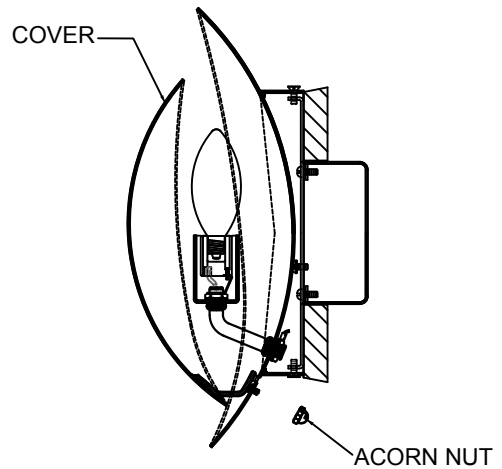

FIGURE-03
7. Reinstall the cover and secure with acorn nut (See Figure-03)